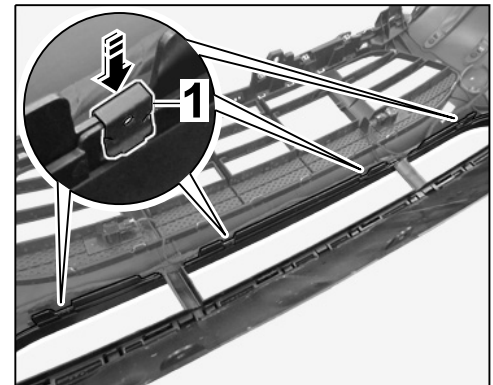

Figure 15
2.7.3 Install clamp (⇒ *Figure 15*).